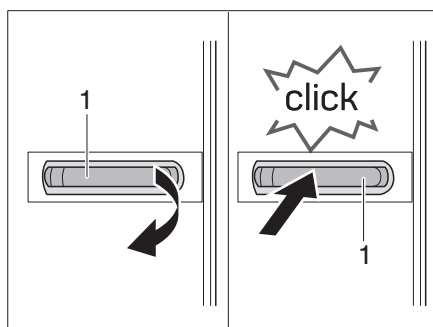

Fig. 116 Opening/closing the refrigerator door
- Pull the door handle (Fig. 116/1). The refrigerator door is opened.
- Push the refrigerator door closed at the door handle (Fig. 116/1). The refrigerator latches audibly into the locking mechanism. The door is closed correctly for door operation if an audible click can be heard.